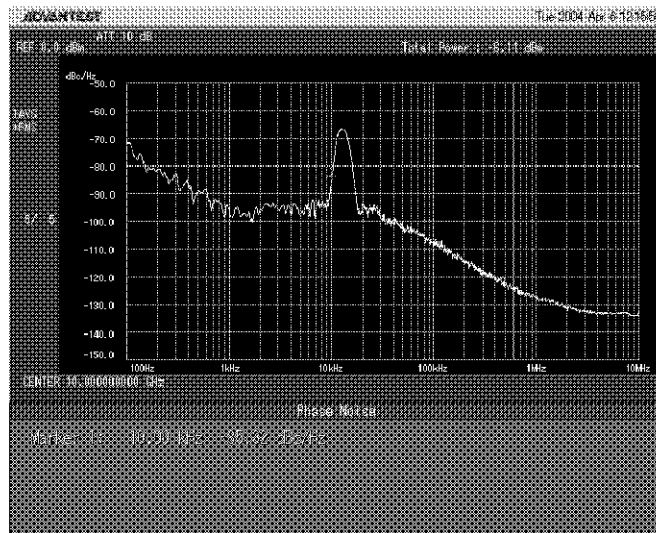

Figure 2-8 In Low Resolution Mode
- 2. An example in Figure 2-8 shows that the phase noise at a 10-kHz offset frequency cannot be measured correctly because of the spurious signal effect.